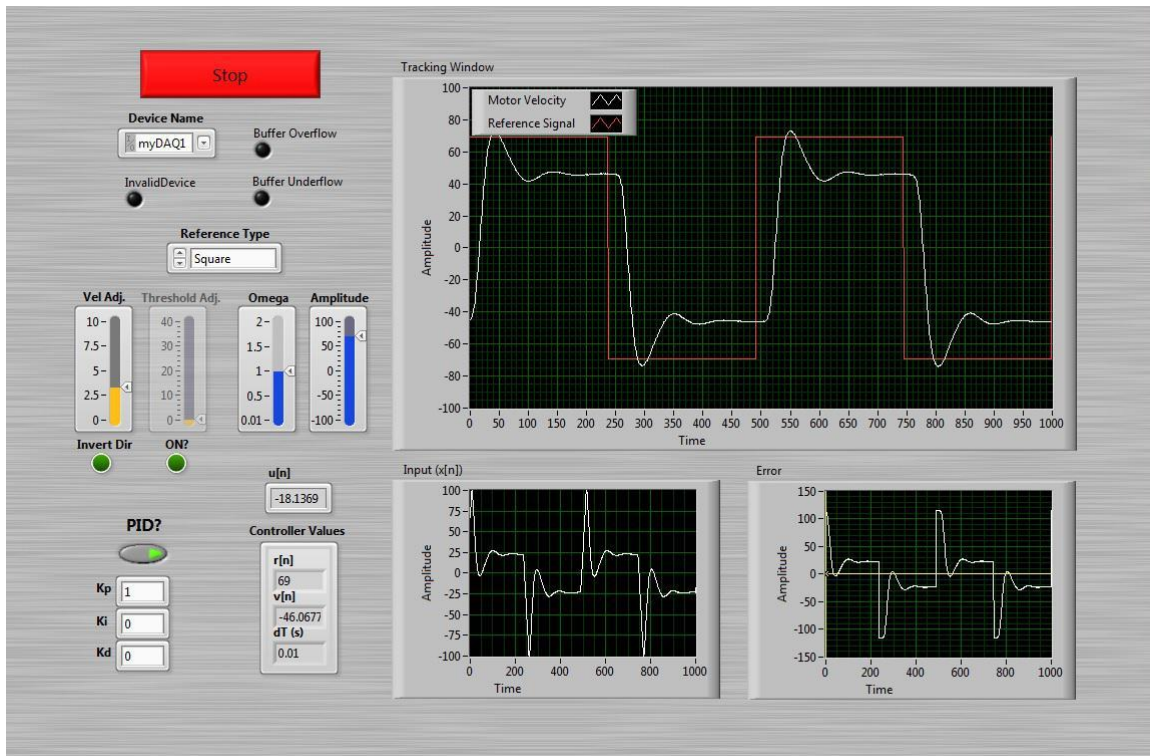

Figure 6: Screenshot of the VI with proportional control.
- Set the amplitude back to zero and turn on feedback with the PID button (the light should go on). Initially set  $K_p = 2$ ,  $K_i = 0$  and  $K_d = 0$ , and set the reference type to a square wave with  $\Omega = 1$ . Gradually increase the amplitude to near 100%. Your signals should look something like those in Figure 6. You may have to change  $K_p$ , but keep  $K_i = 0$  and  $K_d = 0$ . Do not proceed if your signals don't look similar to those of Figure 6 (ask for help).